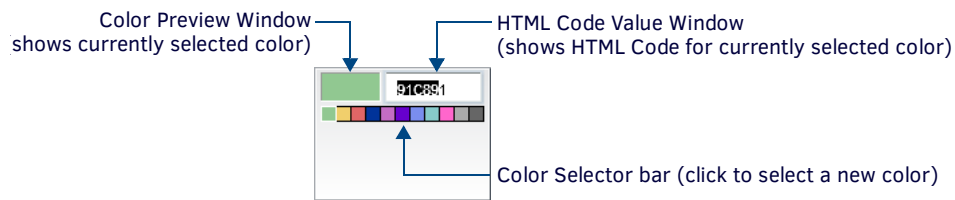

FIG. 424 Edit Bar Graph dialog - Color Selector popup window
- b. Click inside the preview Bar Graph, within one of the color fields. This invokes the Color Selector popup window (FIG. 424):